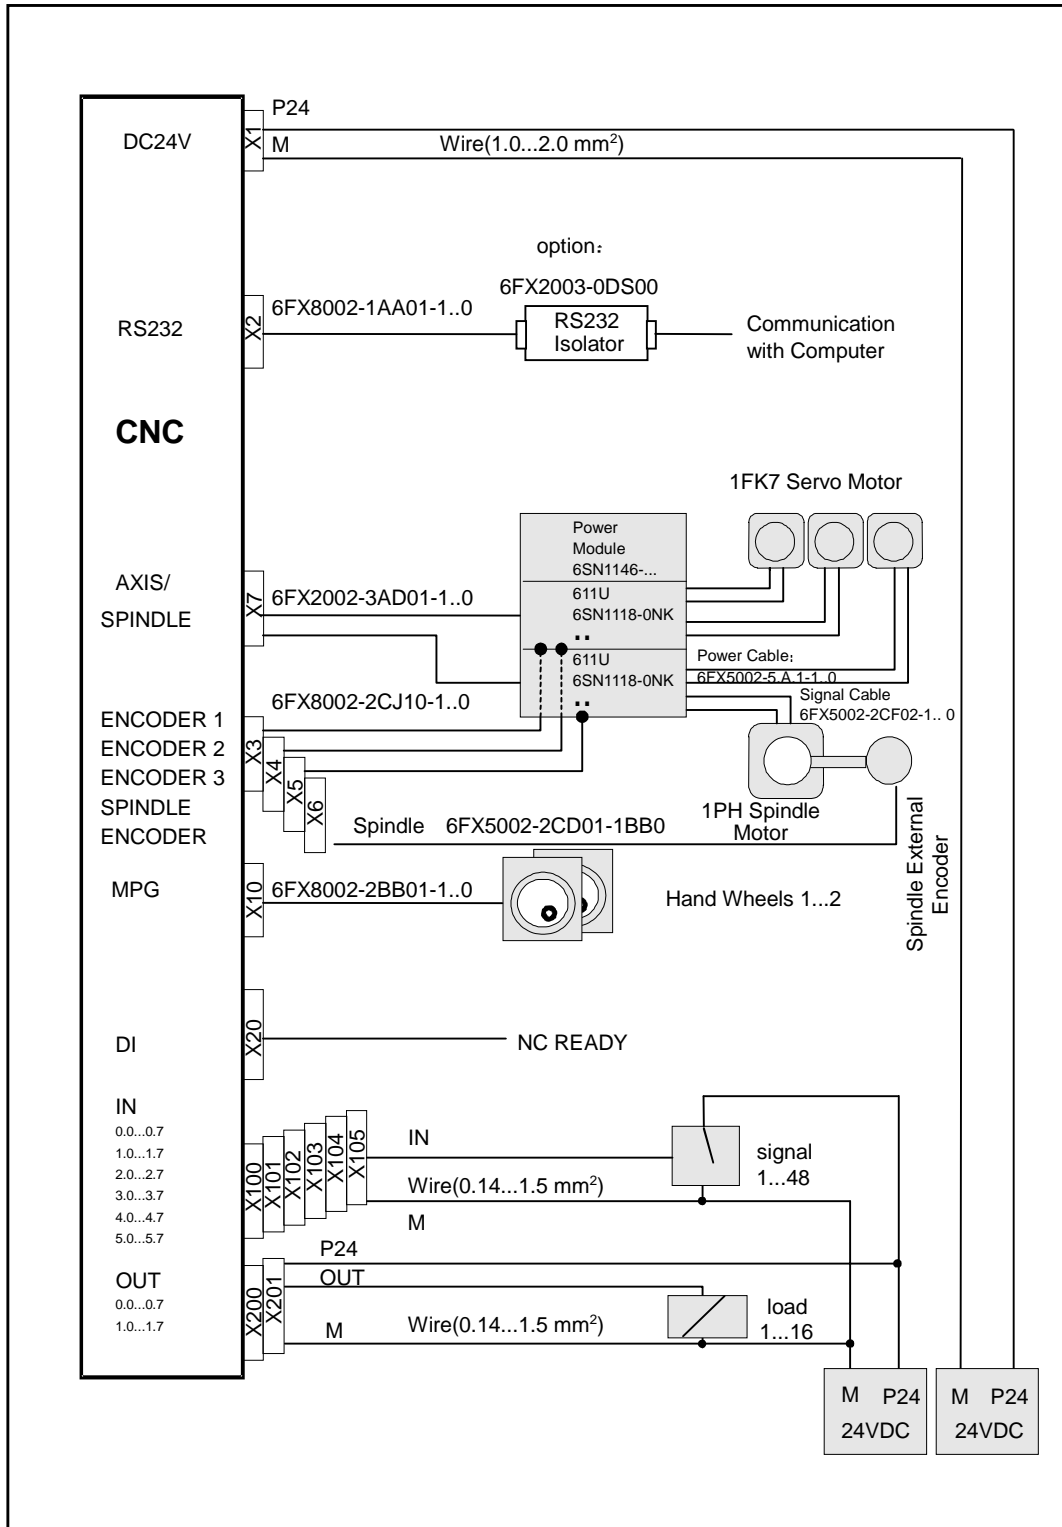
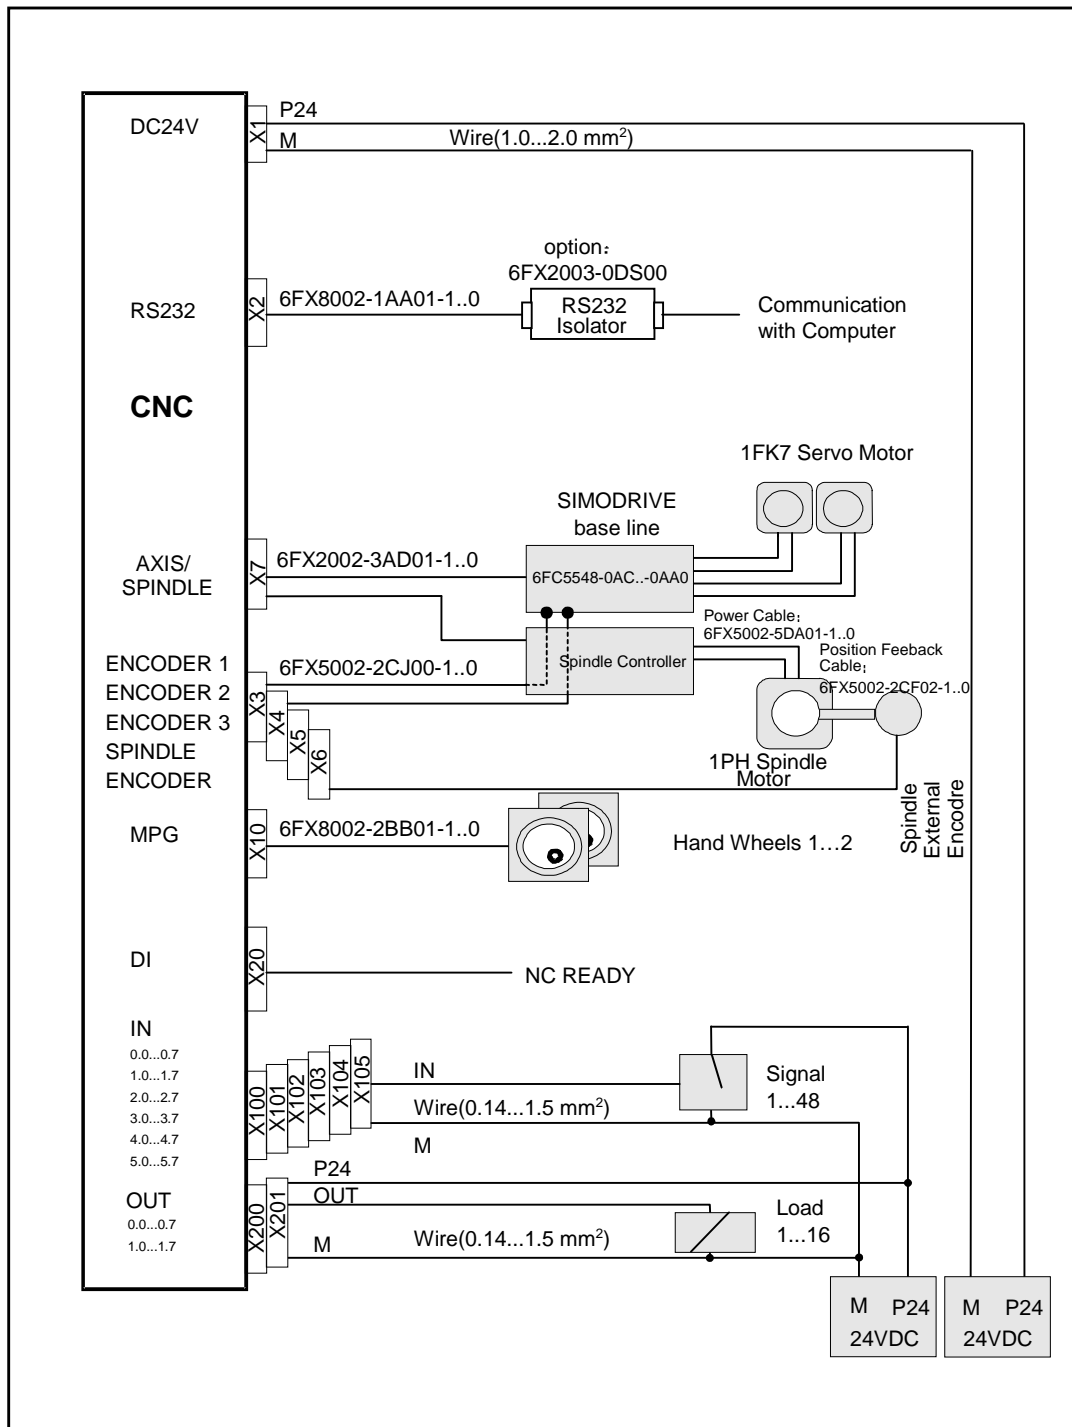

Fig. 2-4 Connection Diagram for SINUMERIK 802C base line with SIMODRIVE 611U
Fig. 2-5 Connection Diagram for SINUMERIK 802C base line with SIMODRIVE base line
1. Connect the cables to the components as shown in Fig. 2-4 or Fig. 2-5.